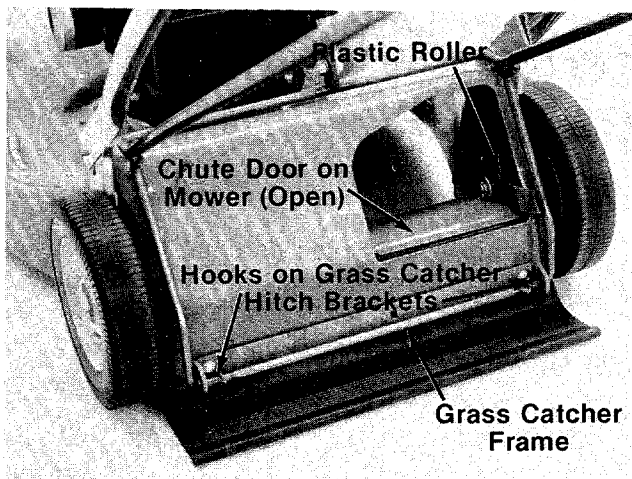

FIGURE 12.
- Attach the grass catcher frame to grass catcher hitch bracket on rear of the mower by hooking grass catcher into hooks on grass catcher hitch bracket. See figure 12.
- Lift the rear of grass catcher up. The roller on the grass catcher will push the chute door on the mower open. See figure 12.
Figure 12 is shown with the chute door open for photo clarity only.